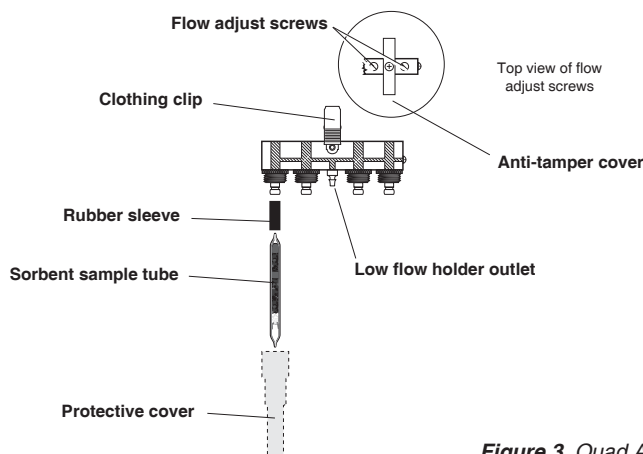

Figure 3. Quad Adjustable Low Flow Tube Holder
Using a CPC and Dual, Tri, or Quad Adjustable Low Flow Tube Holder (Figure 3)
5. Using a small screwdriver, loosen and turn the brass flow adjust screw (see above right) directly beneath the port holding the first active tube to be calibrated (**clockwise** to increase, **counterclockwise** to decrease) until the calibrator indicates the method-specified flow rate. **Do not adjust the flow rate on the pump.** *Note: For tri and quad models, first rotate each anti-tamper cover to expose the flow adjust screws, then adjust the appropriate one until the calibrator indicates the desired flow (Figures 3 and 5).*